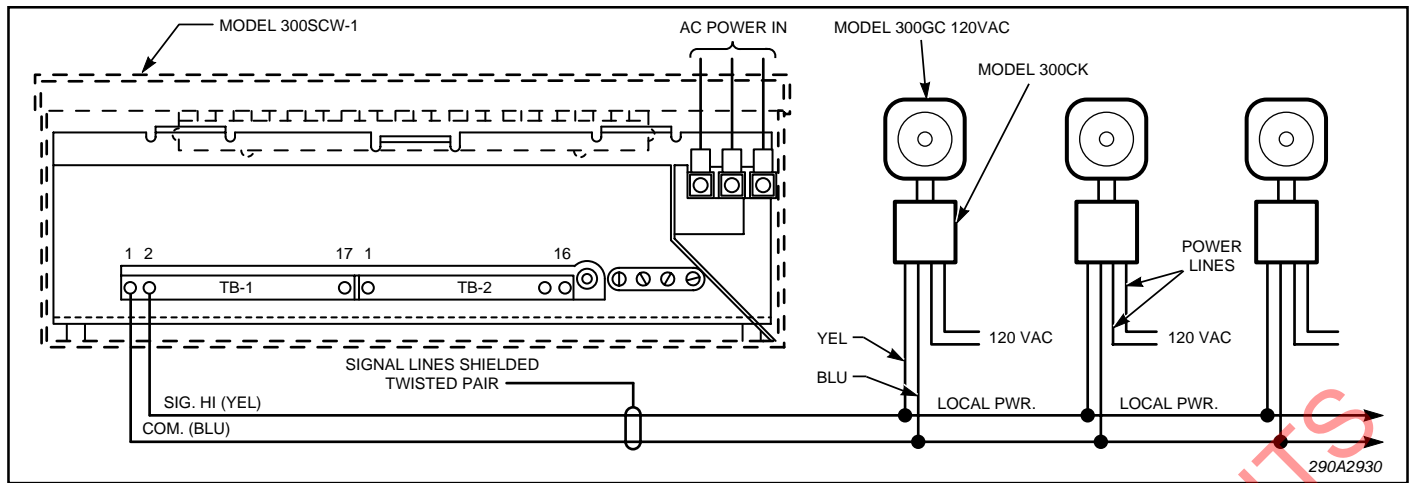

Figure 3-5. Typical Local Power System.
A. Local Power (see figure 3-5).